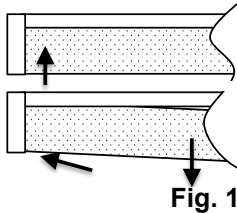

Fig. 1
2. Slide the diffuser (2) inside the fixture channel (1) and press one end of the diffuser, then move it into the fixture end cap. Carefully separate the diffuser from the fixture channel. *Note: The diffuser is very fragile. (Fig. 1)*